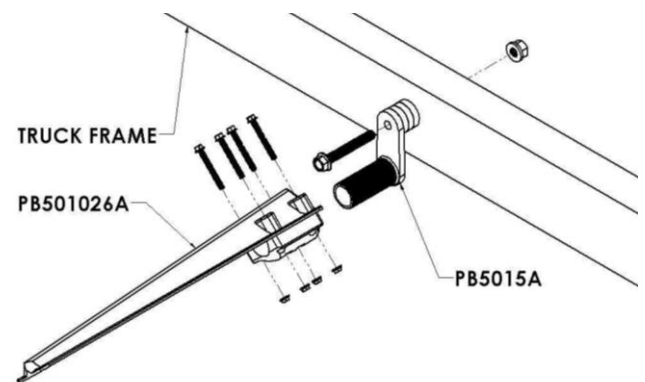

Figure 11
- A. Once the brackets are placed in position with the fender, tighten the 5/8" x 4-1/2" bolts that go through the PB5015 steel swivel to attach the swivel securely to the frame (Figure 11). **Recommended torque is 160-170 FT-LBS**